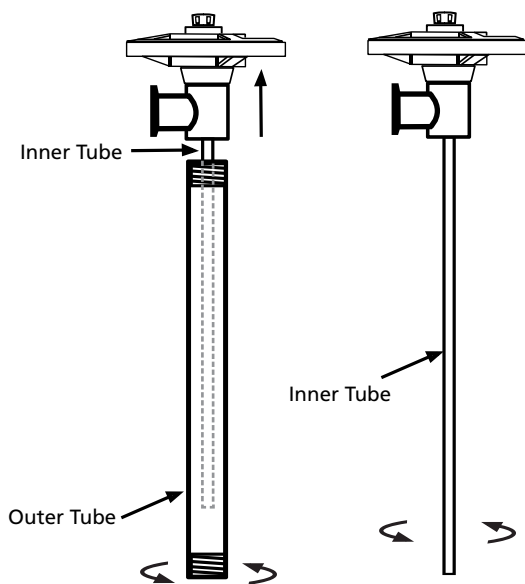

Figure 6
6. For plastic and aluminum models, remove outer tube and inner tube from discharge housing by turning clockwise (see Figure 6).